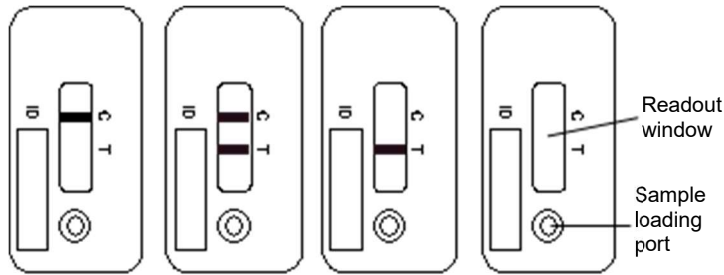

Figure 1A Figure 1B Figure 1C Figure 1D
- For a valid test result, the control line (C) must be visible in all cases (see figure 1A and figure 1B). It is used as a functional test control only and cannot be used for the interpretation of the test line (T). If the test line (T) is not detectable after 15 minutes of incubation time (figure 1A), the concentration of adalimumab present in the serum sample is below the detection limit. If a test line (T) is